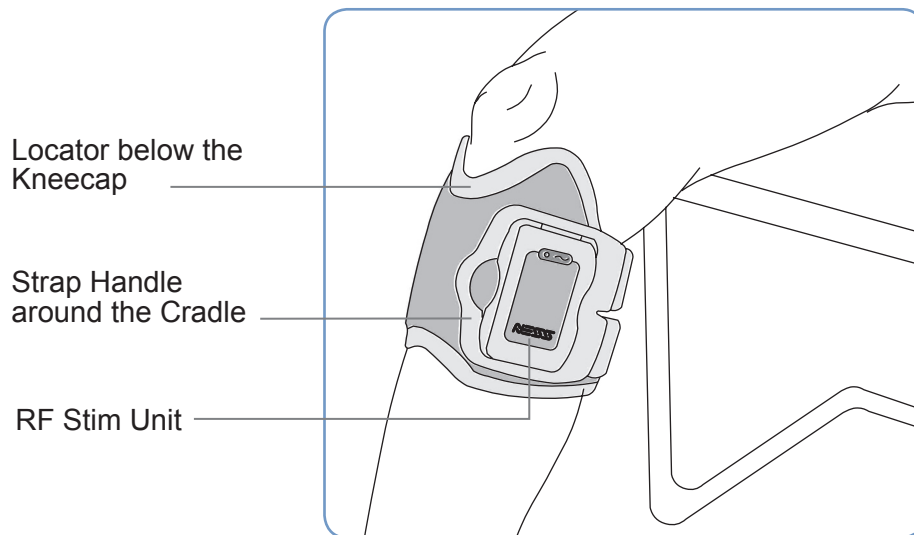

Figure 8: Orthosis Fastened in Place
4. At this stage you should check to see if visually the Orthosis is in place (see figure 8). If not, take the Orthosis off and put it back on accurately.